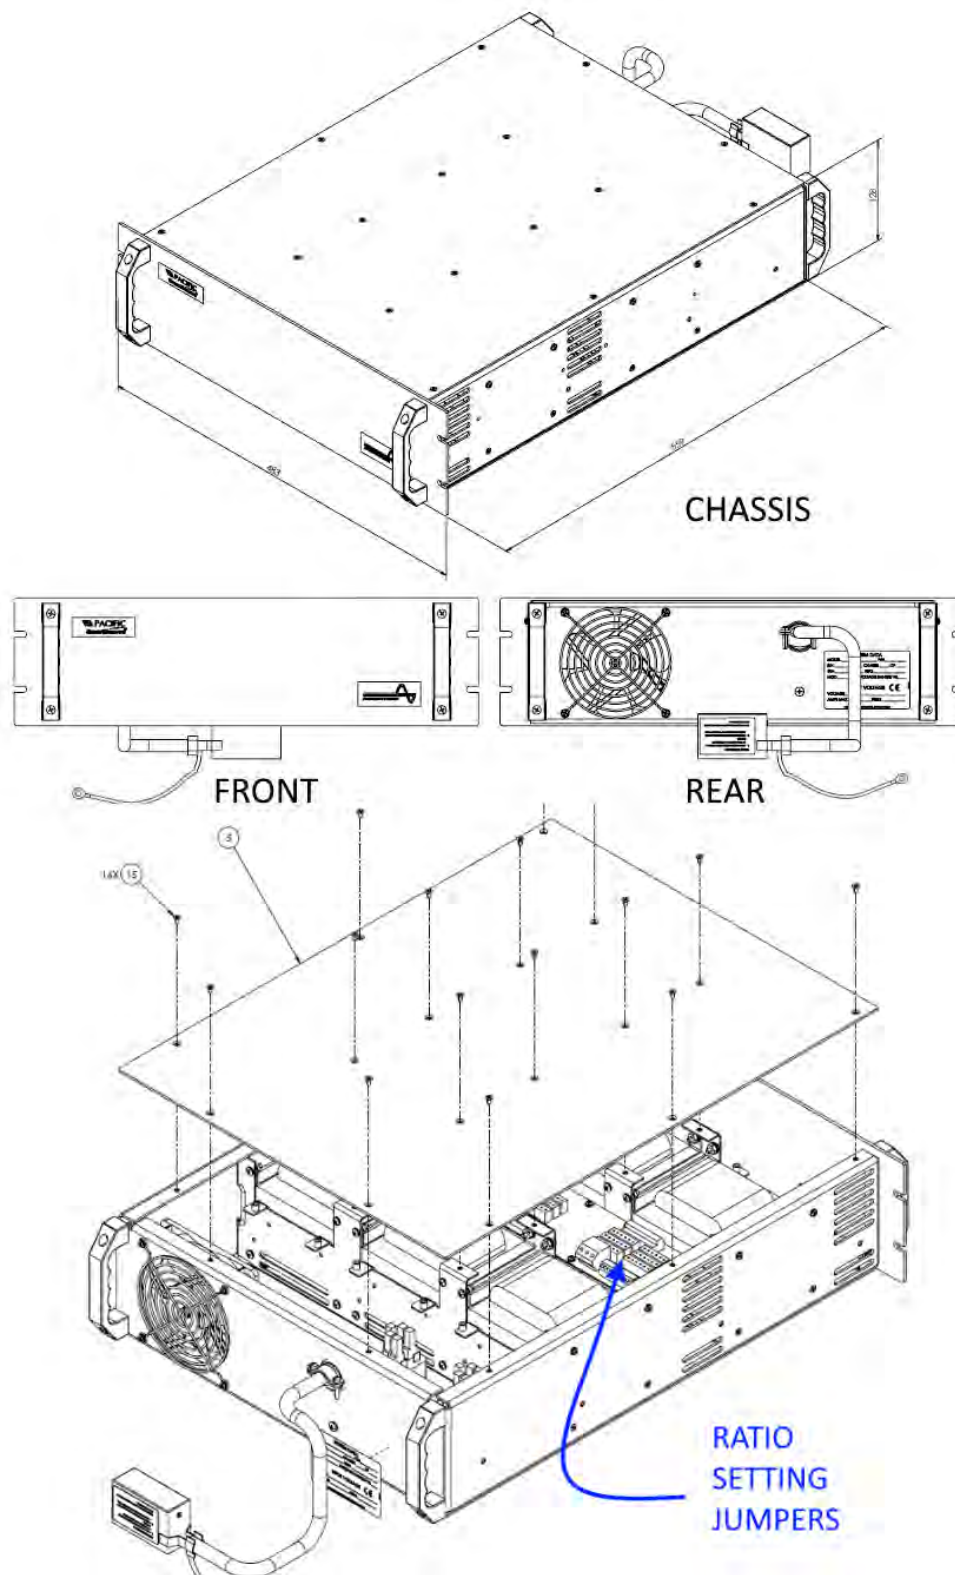
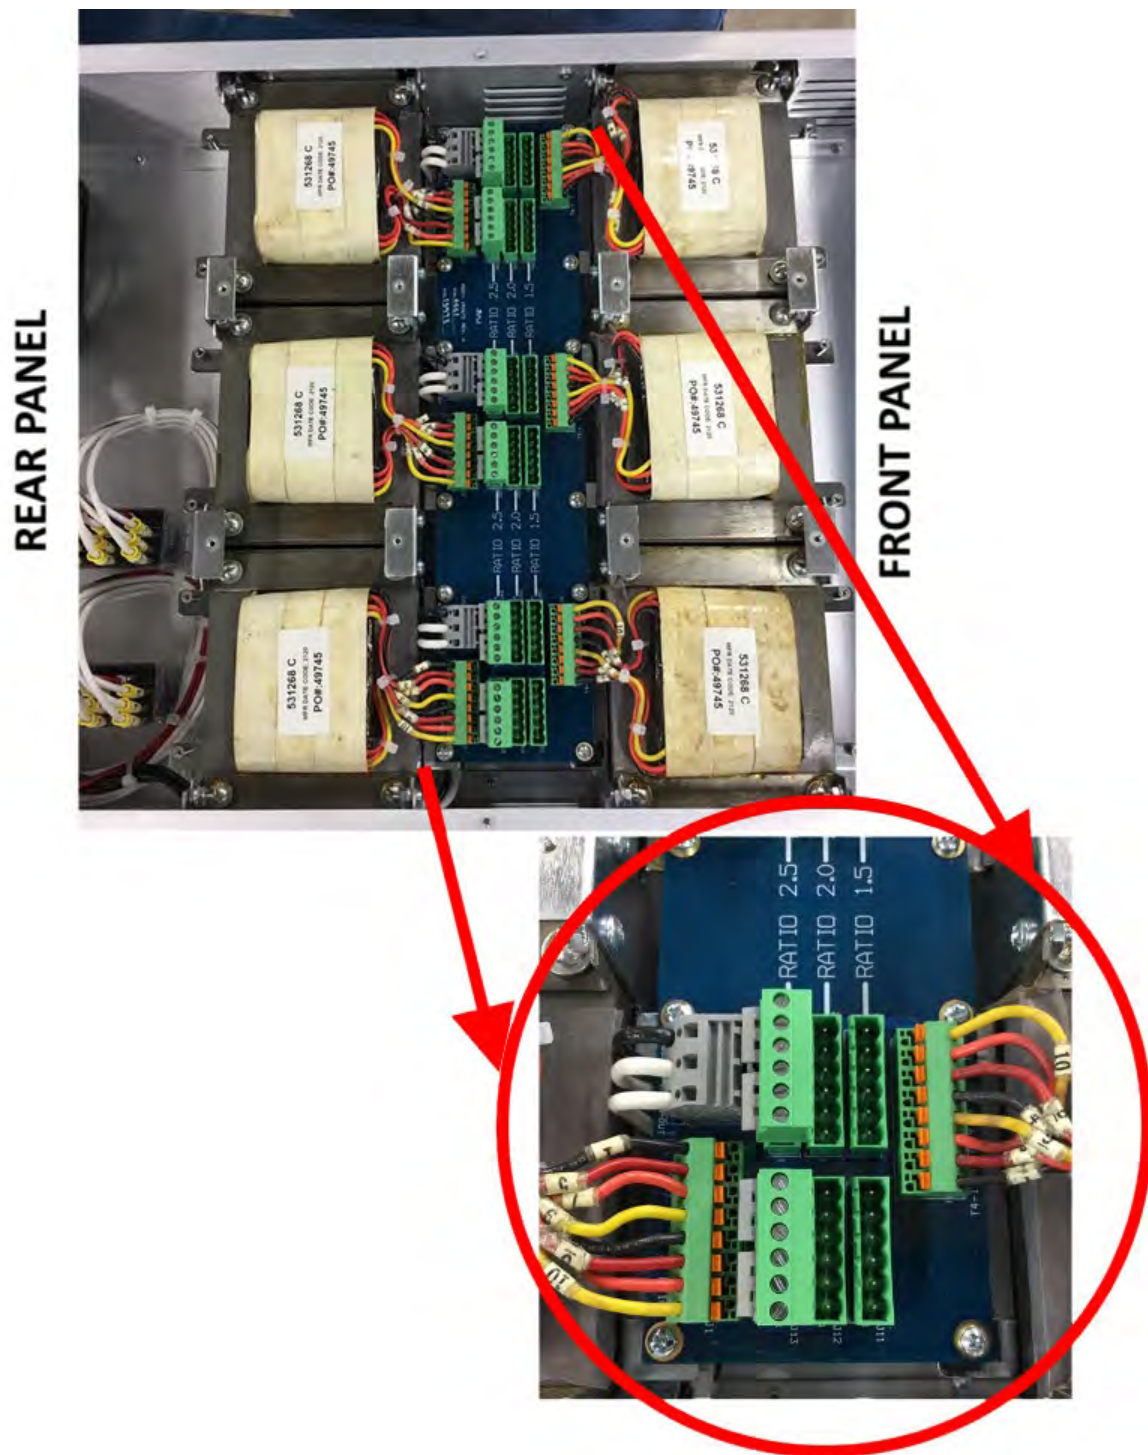

Figure 5-9: External Output Transformer Module Chassis Drawing Load Connections
Figure 5-10: External Output Transformer Module Configuration Jumpers
For all 5U rack height LSX models, the magnetics module consists of a separate 3U rack mount chassis that contains the transformers and connects to the power source. The Magnetics Module (Assembly No. 134780) is required for the VR1.5, VR2.0, and VR2.5. Refer to Figure 5-9 on page 76.
3. Move all jumpers to the desired transformer ratio position. All jumpers must be in the same row. The ratio is shown on the circuit board. Refer to Figure 5-10 on page 77.
The wiring requirements for a low range (0-132 Vac, 0-135 Vac or 0-150 Vac) single phase load are shown in Figure 5-10.
used in addition to the wiring described above. Refer to Figure 5-9 and Figure 5-10 for connection details.
The wiring requirements for three phase loads (WYE or DELTA) are shown in Figure 5-9.
Figure 5-10 shows the external sense wiring for 1, 2, and 3 ϕ systems. There is little or no current flowing through the External Sense metering lines. Standard 22 AWG, 600 Volt (0.050" or 1.27mm) control wire is recommended for this application. Twisting the External Sense wiring is recommended and, in some cases, can improve performance. In noisy environments, shielding may become necessary. If shielded cable is used, be sure to ground the shield at one end only, to prevent the possibility of creating a ground loop.